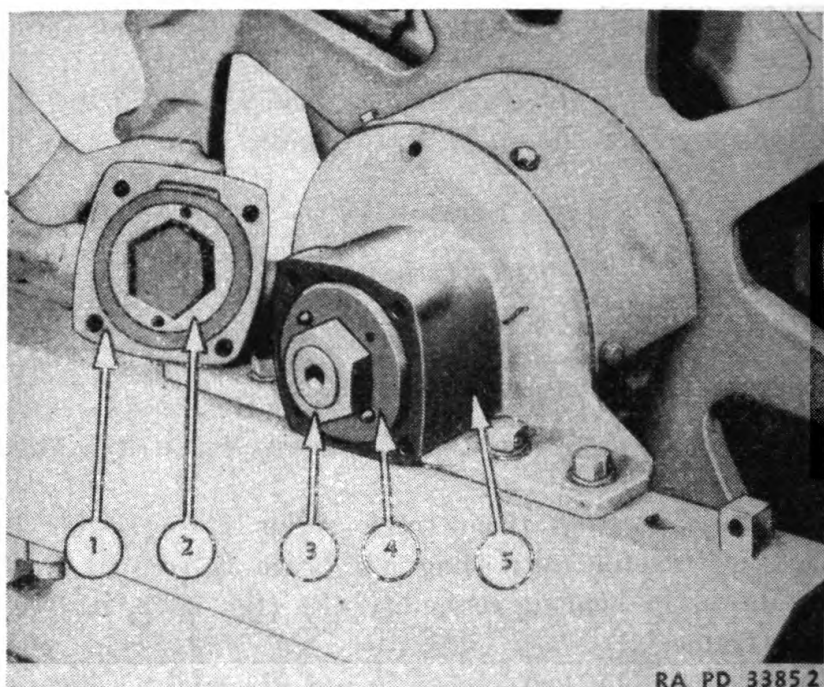
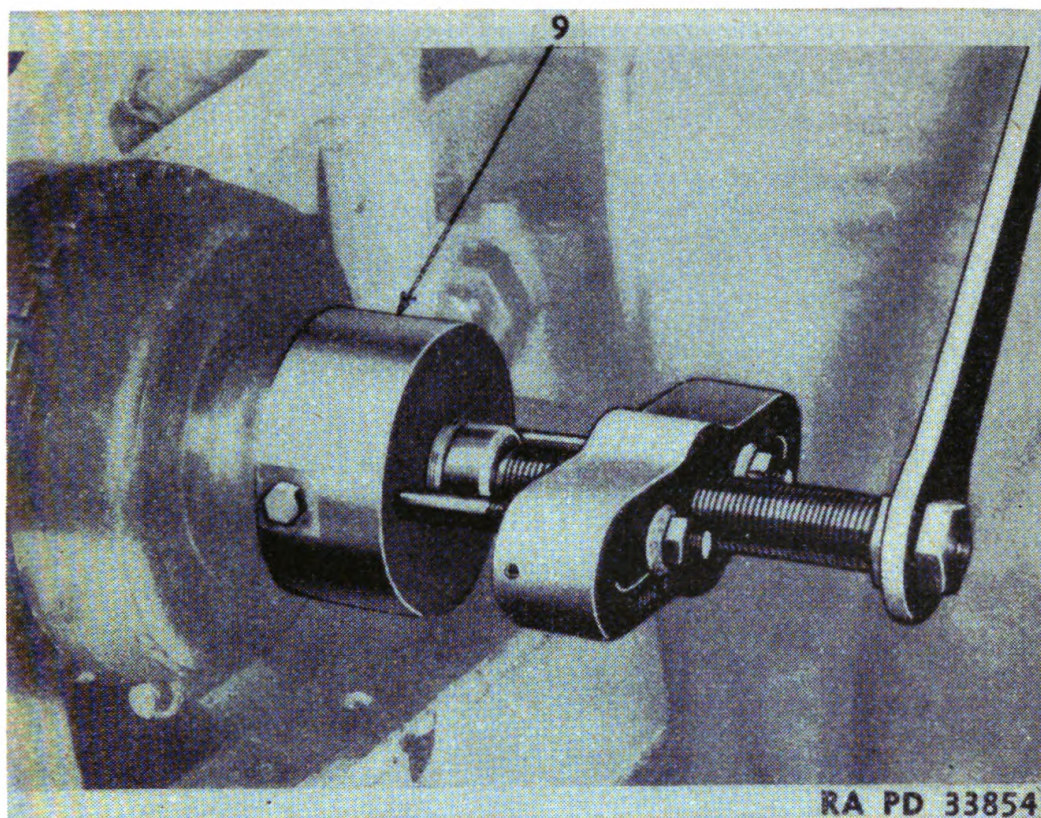
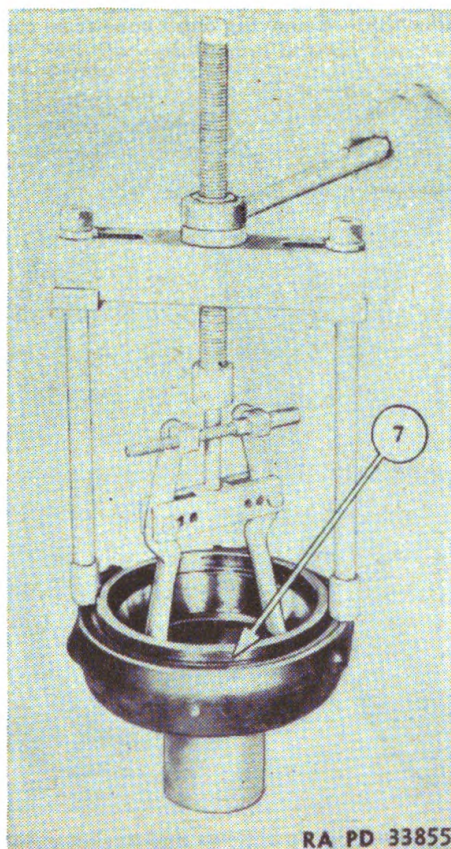
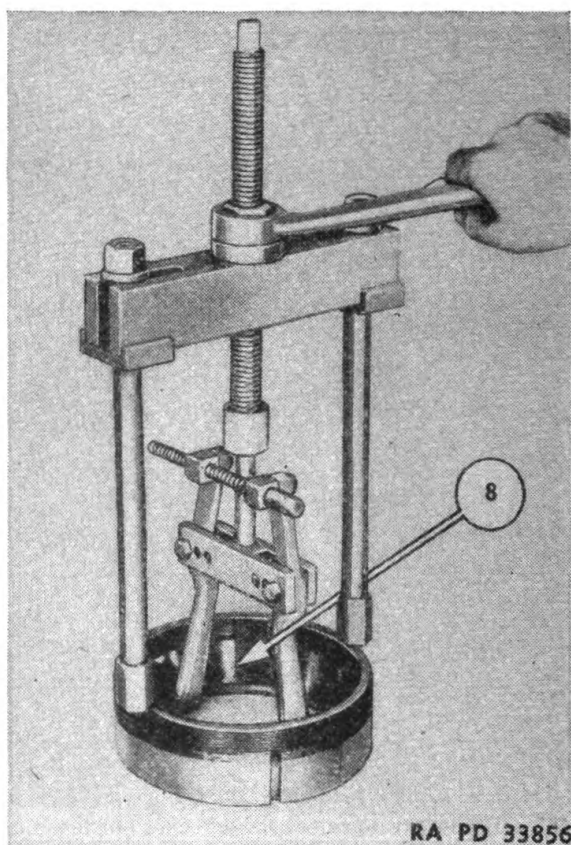

FIGURE 135.—Cap, lock ring, and washer assembly.
FIGURE 137.—Puller arrangement for sprocket hub bearing holder.
FIGURE 138.—Method of cage removal.
FIGURE 139.—Removing outer cone from cage.
(2) Remove capscrews from track roller frame outer bearing.
(3) Jack up tractor until diagonal brace is free of final drive shaft and dowel in bearing assembly (5) (fig. 135), is free of the track roller frame.
(4) Remove cap (1), lock ring (2), nut (3), and washer assembly (4), (fig. 135). Nut (3) is $2\frac{5}{16}$ -inch, for which wrench L2075 is available.
(5) The shims (6) fig. (136), behind washer (4) are for alining the track roller frame centrally with the sprocket.
(6) When properly adjusted, the rear roller in the track roller frame will be centered with relation to the sprocket.
(7) Removing shims will allow the roller frame to move toward the center of the tractor; adding shims will move the roller frame out.
(8) If more than .020 inch in feeler gage thickness can be inserted between the bushing in bearing assembly (5) and the hub of bearing cage holder (9) (fig. 137), a new bushing should be used.
b. Bearing cage holder assembly.—Use the puller arrangement for sprocket hub bearing holder (9).
c. Bearing cage.—(1) Unscrew final drive adjusting nut from cage holder. Pull cage (7) (fig. 138) from the holder using the CAT8B7548 and CAT8B7554 pullers as shown. The same combination will pull out cone (8) (fig. 139) from the cage.